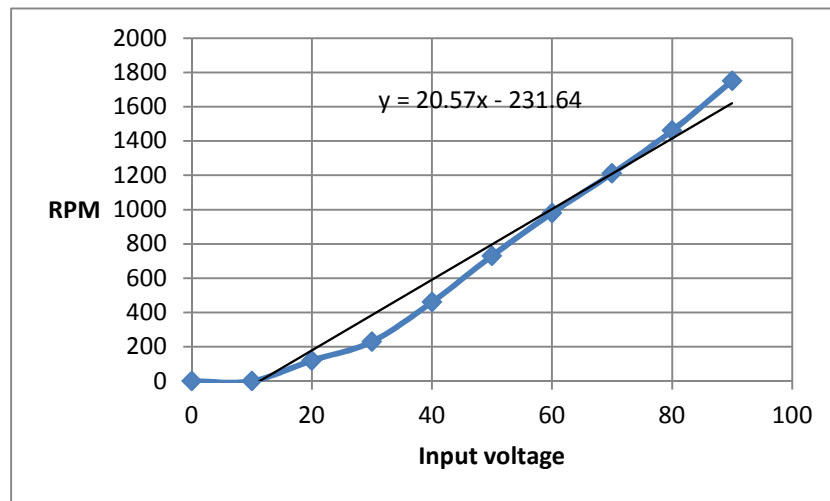

Figure 3-36 Typical DC motor static performance analysis
Mount and load the motor as it will be used. Then apply a low voltage and record the speed once it has stabilized. Repeat this process across the range of the motor. An example tabulation is shown in Figure 3-36. Notice that it is typical for the motor not to start until there is 10% to 20% of the maximum voltage applied. This produces the nonlinearity and the offset shown in the scatter plot.
- Setup and solve the differential equation for the motor whose parameters were developed in Figure 3-36 and 3-37. Apply the same initial conditions and voltage step as shown in Figure 3-37.
The other end point of the step is at 1200 RPM. From Figure 3-36, the trendline linear approximation starts at 0 RPM, 10 V and reaches 1200 RPM at 70 V. So the *step* height is